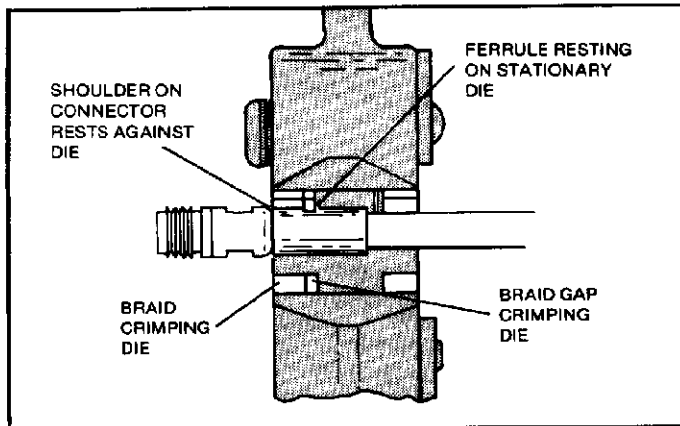

Figure 4
- (c) Place ferrule on stationary die so that shoulder on connector body butts against die. See Figure 4.